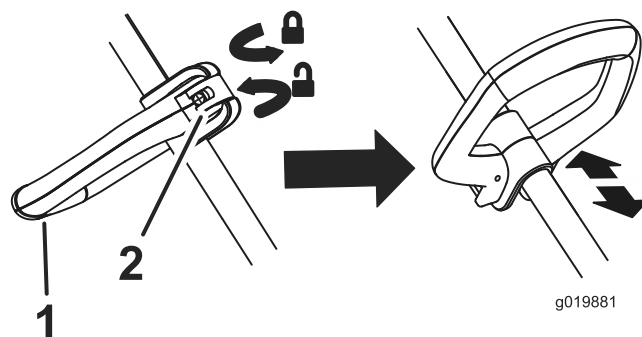

Figure 8
- To adjust the auxiliary handle height, release the auxiliary handle latch, slide the auxiliary handle up or down to the desired height, then secure the auxiliary handle in place by closing the auxiliary latch (Figure 8).